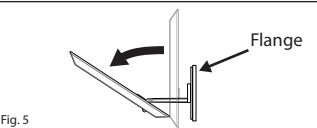

Fig. 5
9. Place the flange plate on the wall and rotate to the correct angle to align the holes on the grab bar at the desired position. Once the location and angle is aligned, place a mark at the top of the flange plate to note the upward direction. Next, peel and remove (1) piece of protective strips from the circle piece of tape. Place the tape on the end of the arm and adhere the arm with the bar in the upward direction to the back side of the flange plate. The arm should sit inside ring. "It is important the arm always be upright."
10. Peel and remove (1) piece of protective strips from tape on the supplied wall anchor brace bar. The tape is necessary to allow the supplied wall anchor brace bar to adhere to the back side of the wall for placement. (This will ensure that the bar will stay upright during installation.)
11. Get supplied anchor, flip the bar downward at the end of the arm. The bar should be tilted up only slightly. (Fig. 5)